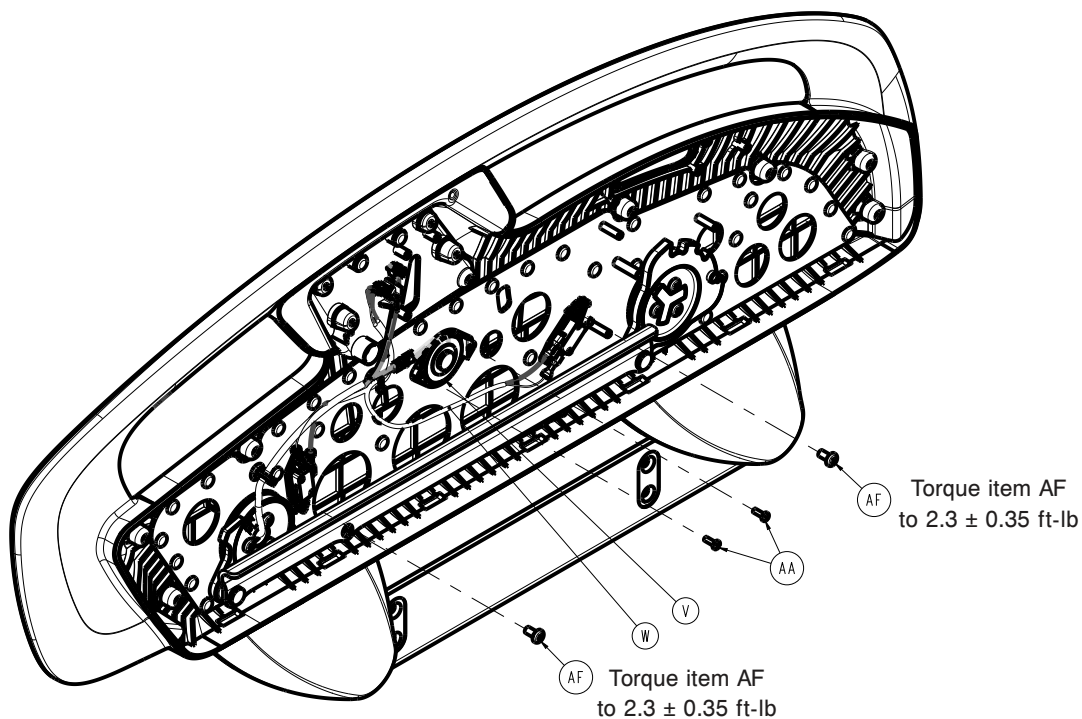

Figure 37 – Removing the speaker assembly
15. Using a T30 Torx driver, remove the screws (AF) that secure the siderail switch assemblies (W) to the siderail hoop (Figure 37). Pull out the cable retainer. Save and remove the switches.
10. Unplug both wires (black-NC2 of switch and red-COM of switch) connected to the siderail switch assembly (W) (Figure 37).
11. Using a T30 Torx driver, remove the screw (AF) that secures the siderail switch assembly (W) and bracket to the siderail frame (Figure 37).